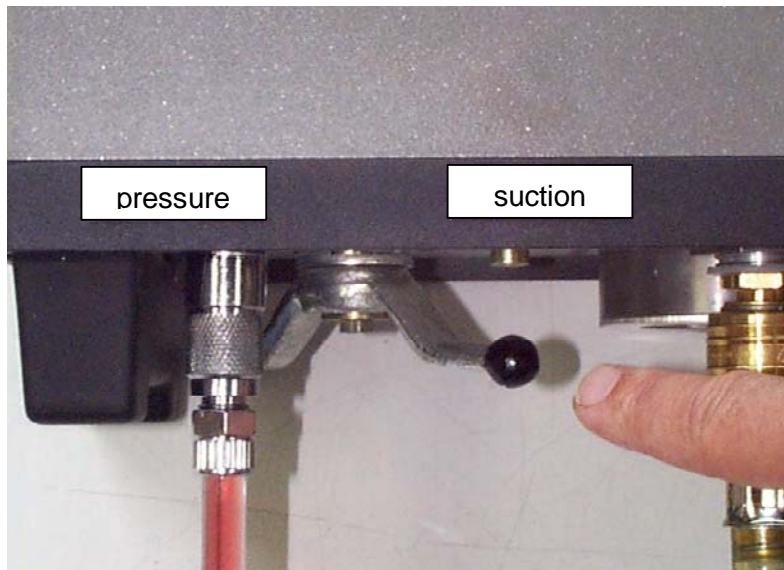

Figure 6 : Ball Valve Position "Suction"
- C** Set the ball valve on the rear of the FCU to position SUCTION (refer to Figure 6 : Ball Valve Position "Suction").